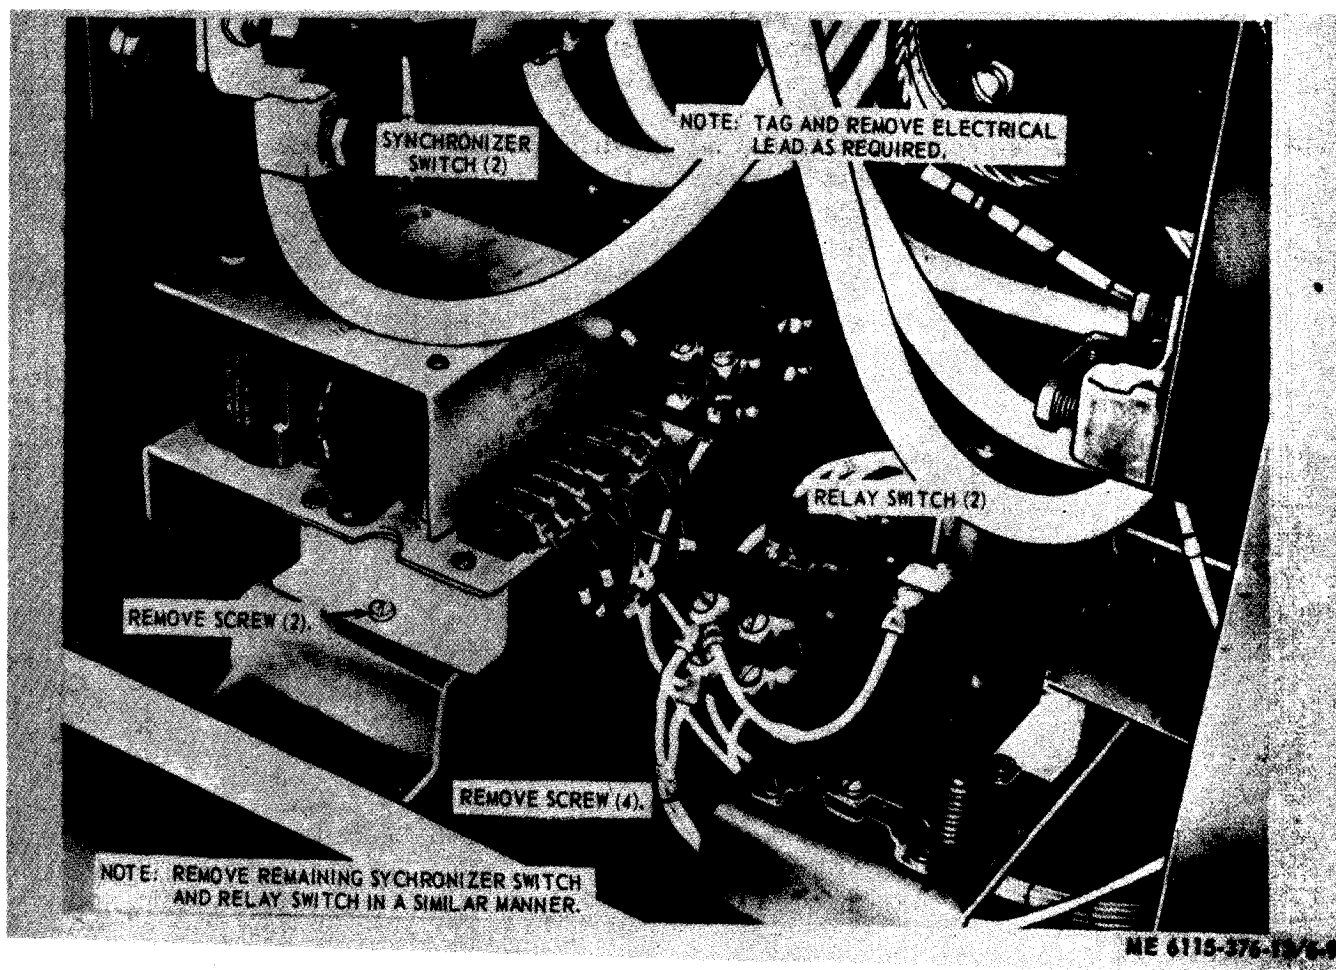

Figure 6-9. Relay switch assembly and electronic synchronizer switch assembly, removal and installation.
*g. Relay Switch Removal, Inspection and Installation.* Remove rear access panel, refer to figure 6-9, tag and disconnect electrical leads as necessary; remove four mounting screws and remove relay switch. Inspect all parts for damaged threads, cracks, breaks or other obvious defects. Replace a defective relay switch. Install relay switch in reverse order of removal; install rear access panel.
*h. Electronic Synchronizer Switch.* The synchronizer assembly contains two electronic synchronizer switches of solid state design each consisting of three plug-in type modules, two transformers, transistors, diodes and capacitors. Remove rear access panel. Refer to figure 6-9, tag and disconnect electrical leads; remove two mounting screws and remove electronic synchronizer. Inspect all parts for cracks, breaks, loose connections, and other obvious defects. Replace a
defective electronic synchronizer switch. Install electronic synchronizer switch in reverse order of removal (fig. 6-9). Install rear access panel.